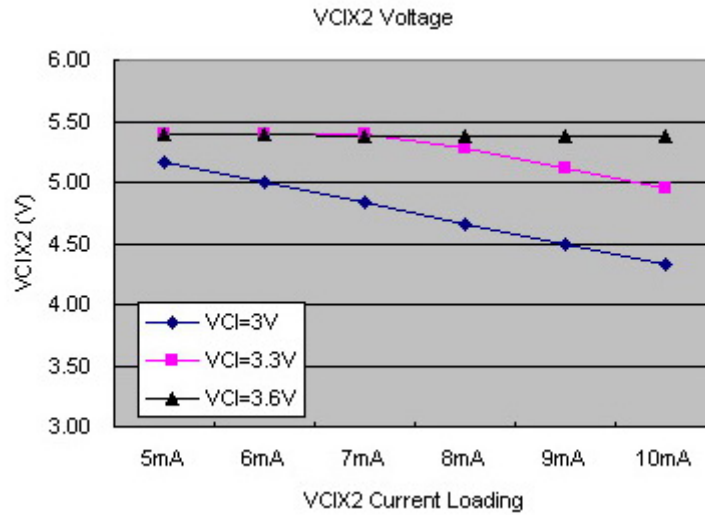

Figure 10.1 VCIX2 Voltage
(2) COML < 0V, COMH < VCIX2J, COMH > VCI
(3) VCIX2 voltage is related with VCI voltage & VCIX2 loading. Figure 10.1 shows the estimated VCIX2 voltage under different VCIX2 current loading when ITO for VCIX2 · VCI and VCHS = 10Ω.